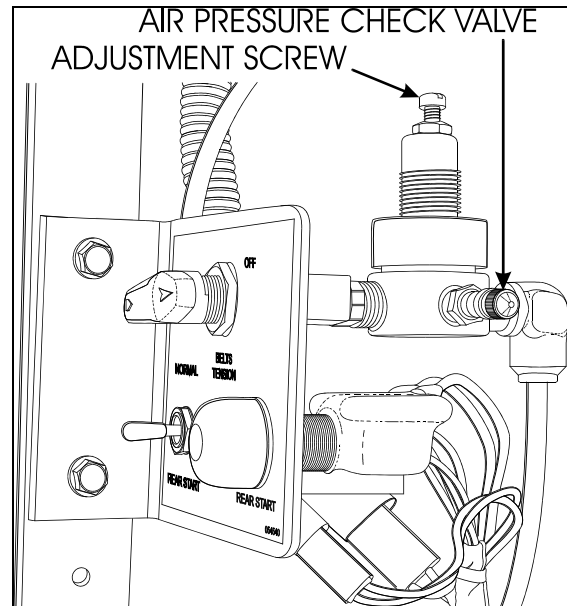

FIGURE 16: TENSIONING VALVE
1. Open engine compartment rear doors and locate the belt tensioner two-way control valve (Fig. 16), mounted above the engine R.H. side door next to the pressure regulating valve, then turn handle counterclockwise in order to release pressure and tension on belts.
3. Reset belt tensioning pressure control valve (Fig. 16). Pressure is factory set to 50 psi (345 kPa), periodically check proper pressure.